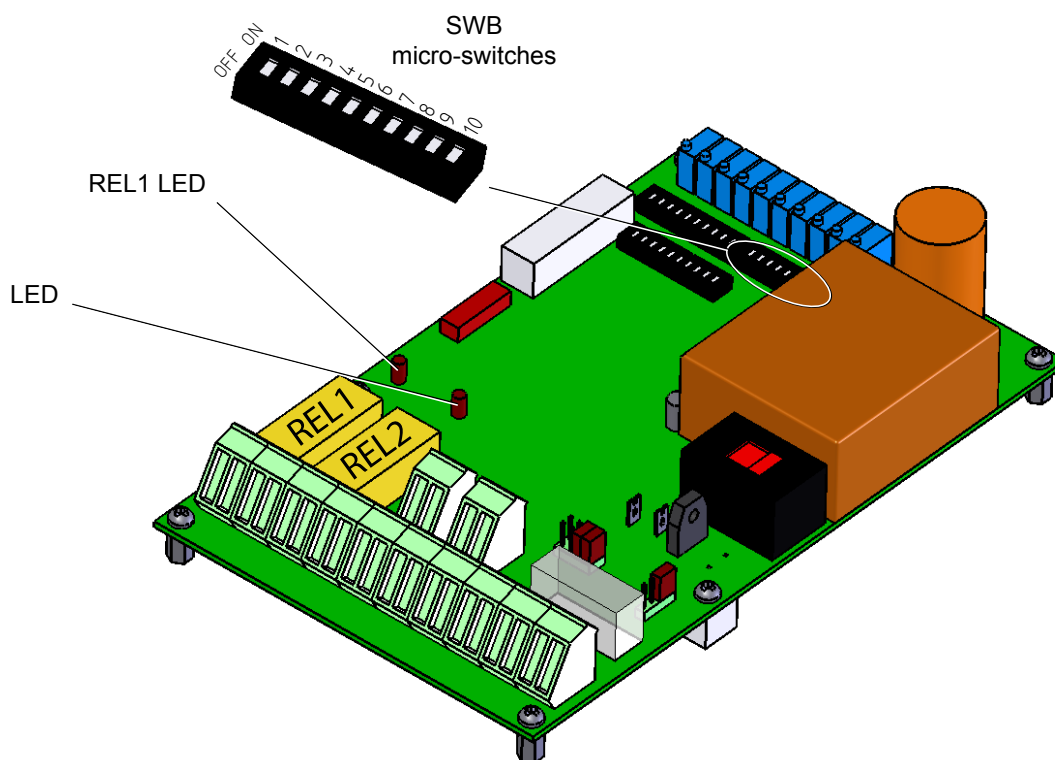

Fig. 3-3 Location of the relays REL1 and REL2 and of the micro-switches SWB of the load monitoring unit board
- The micro-switch SWB9 (see *figure 3-3*) must be OFF.
3. Turn the potentiometer P3 slowly until the LED of REL1 goes on: the detection level will then be switched off. *Figure 3-3* indicates where this LED is located.
3. Turn the potentiometer P5 slowly until the LED of REL2 goes on: the detection level will then be switched off. *Figure 3-3* indicates where this LED is located.